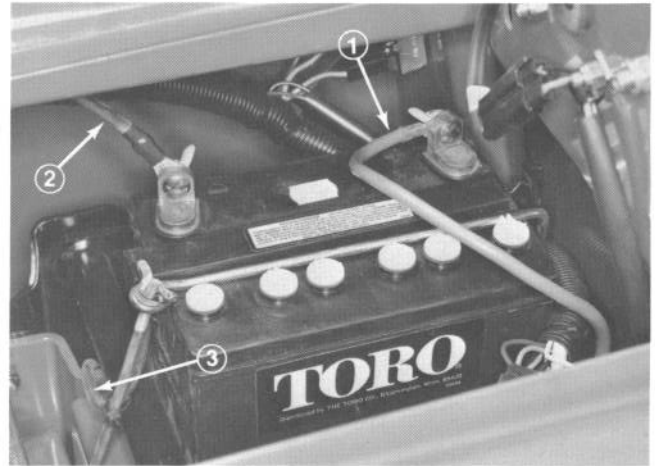

Figure 6
12. Install the positive cable to the positive (+) terminal and the negative cable (black) to the negative (-) terminal of the battery and secure with carriage bolts and wing nuts (Fig. 6).